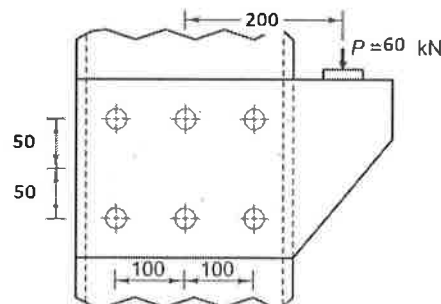

Fig. 3
10. A bracket is attached to a steel channel by means of four identical rivets as shown in Fig.3. Determine the diameter of rivets, if the permissible shear stress is 80 N/mm^2 .